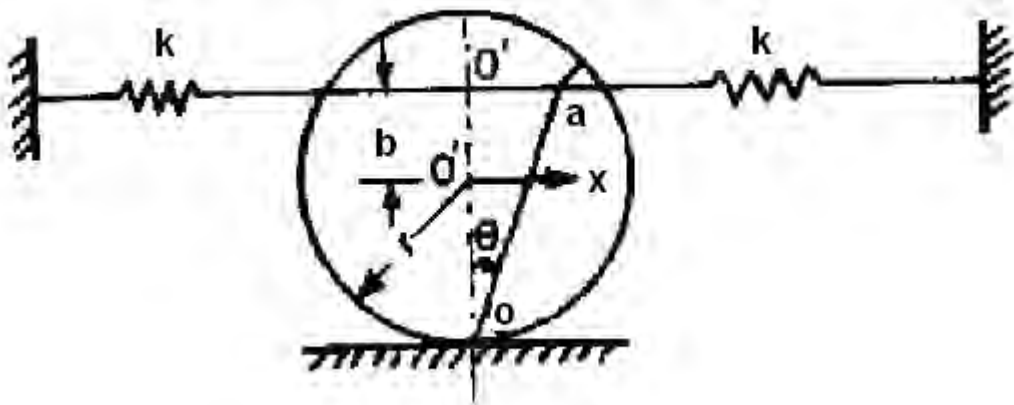

Figure 7:
7. Determine the natural frequency of the system shown in figure 7. [16]